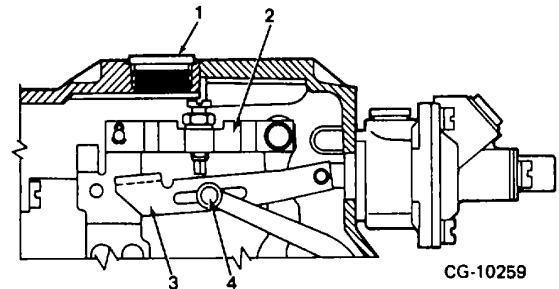

Figure 17. Engaging Aneroid Strap to Rocker Arm Pin (Governor Housing Cut Away for Illustration.)
14. Insert aneroid assembly into governor housing. Rotate aneroid assembly approximately 45 degrees in the counterclockwise direction (from installed position). Slide aneroid assembly into governor housing, then rotate aneroid assembly 45 degrees clockwise to the horizontal position (Figure 17).